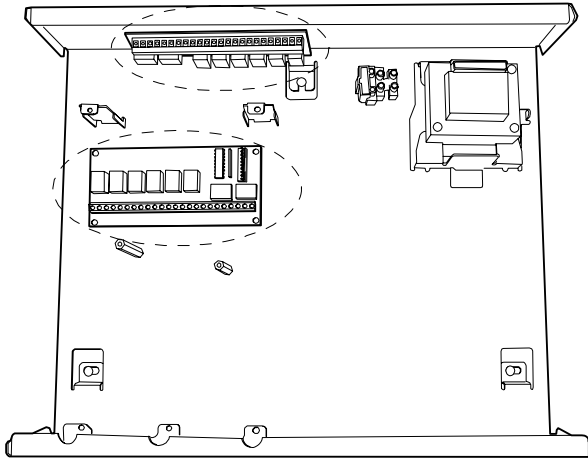

Figure 7. Mounting Positions with 95EN case
When fitting a 8600 within a 95EN Cooper Security recommend two alternative positions for the unit, see Figure 7.
5. Mount the relay card in position in the case (see Figure 7).